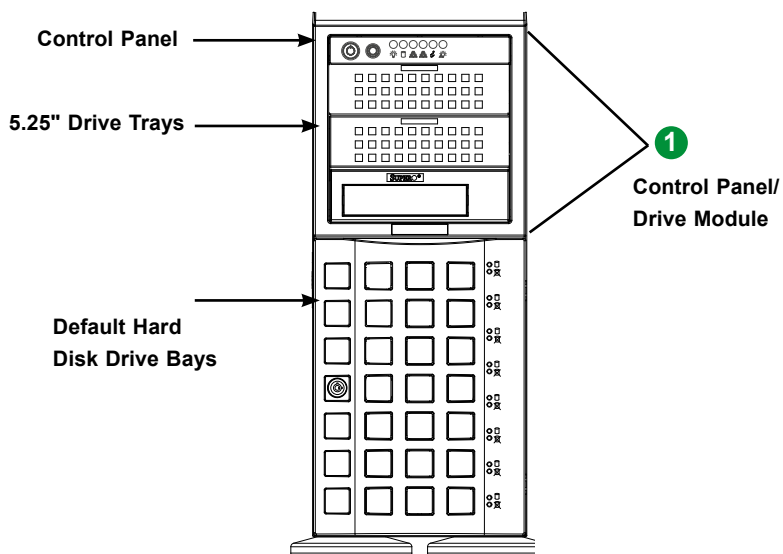

Figure 2-12. Chassis in Tower Mode (Default Configuration)
The system can be configured for either tower or system rack orientation. It is shipped in tower mode and can be immediately used as a desktop workstation. To use it in a rack, rotate the module that contains the control panel and the three drive trays ( ① in Figure 2-12) 90 degrees.